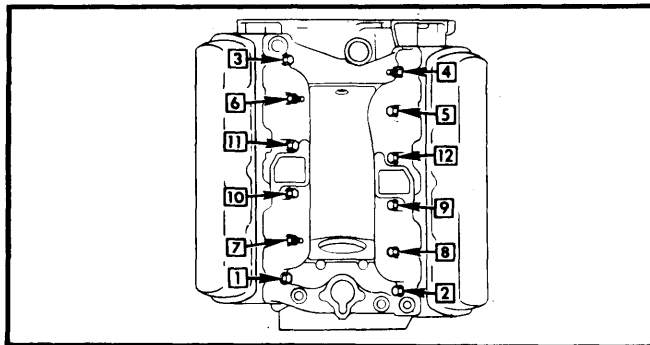

Fig. 1 Intake Manifold Tightening Sequence
2) Dip manifold bolts in oil and tighten in two steps. See Fig. 1. Connect thermostat by-pass hose to water pump.